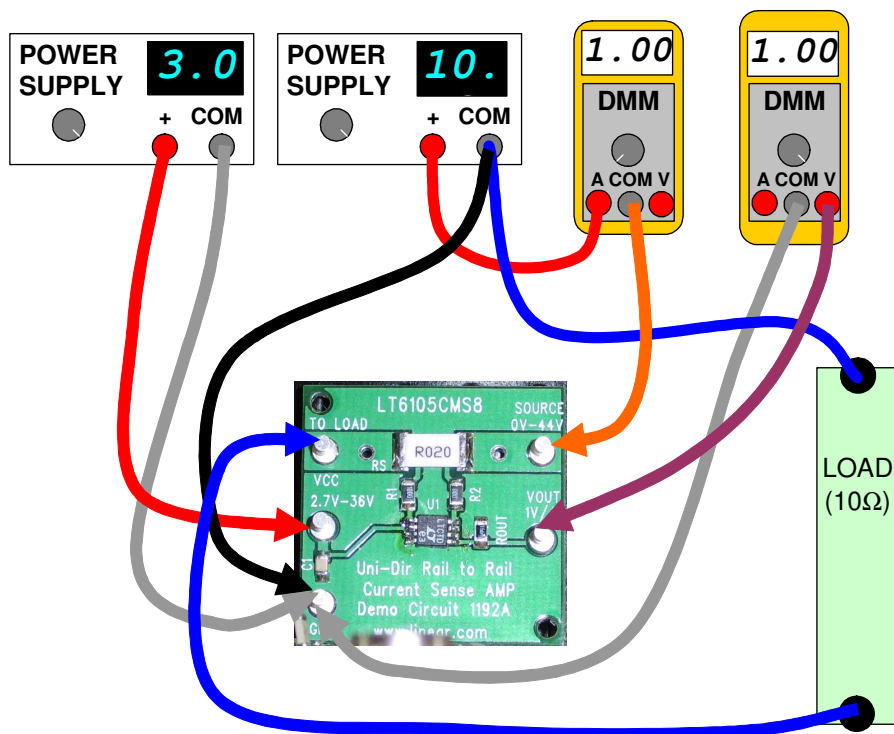

Figure 1. Proper Measurement Equipment Setup
Demonstration circuit 1192 is easy to set up to evaluate the performance of the LT6105. Refer to Figure 1 for proper measurement equipment setup and follow the procedure below:
1. With power off, connect the load driving power supply positive to SOURCE and the common to GND. This supply should be in the range of 0V to 44V. If this supply is not equipped with an accurate current read-out, a DMM (set to measure Amperes) may be connected in series with the supply as shown in Figure 1.